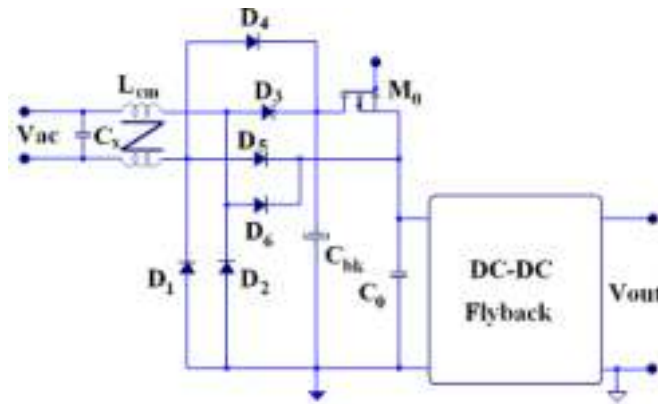

Figure 3: Dc-link chopper
A. *Theoretical Considerations* Fig. 3 presents the proposed method of using more energy directly from the AC line (using D5 and D6) and reducing the storage energy requirements in the bulk capacitor, by means of chopping the connection between DC stage and the DC link of the bulk cap, using the rule of
delivering only the current required by C_o (Fig. 3). Only under these conditions the switching losses of the chopper can be minimized, as the reverse recovery of $D5/D6$ is eliminated.